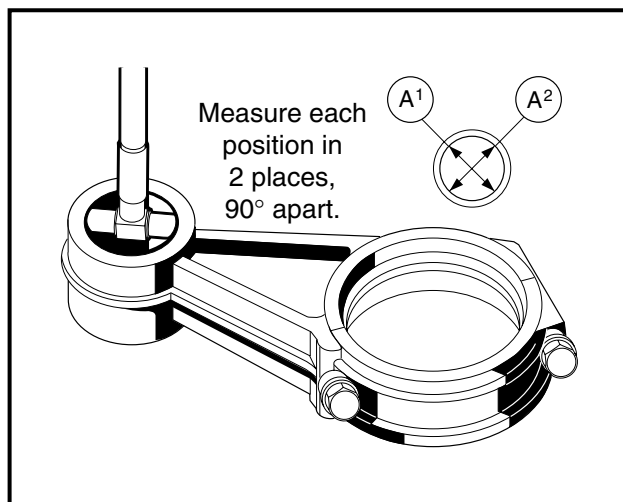

Figure 13-58 Measure Connecting Rod Small Bore I.D.
2. Using a telescoping gauge, measure the inside diameter of the connecting rod small bore at several points along its length (**Figure 13-58, Page 13-29**).